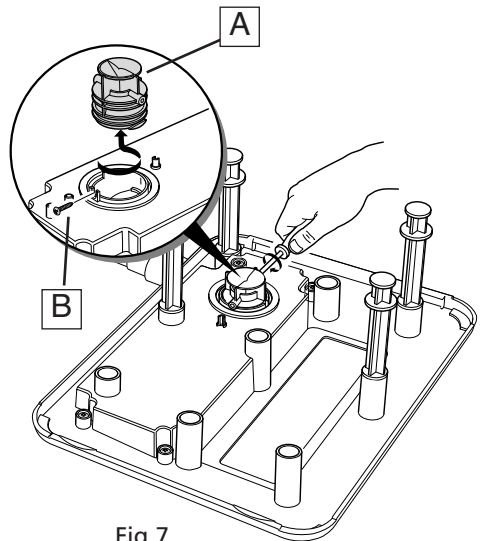

Fig 7
6.4 The spray head outlet (See 'A' Fig 7) from the UVC chamber can be removed for cleaning if required. To remove, unscrew the spray head locking screw (See 'B' Fig 7) Twist and unlock the bayonet and lift the spray head away. (See 'A' Fig 7) To replace, repeat the above in reverse.